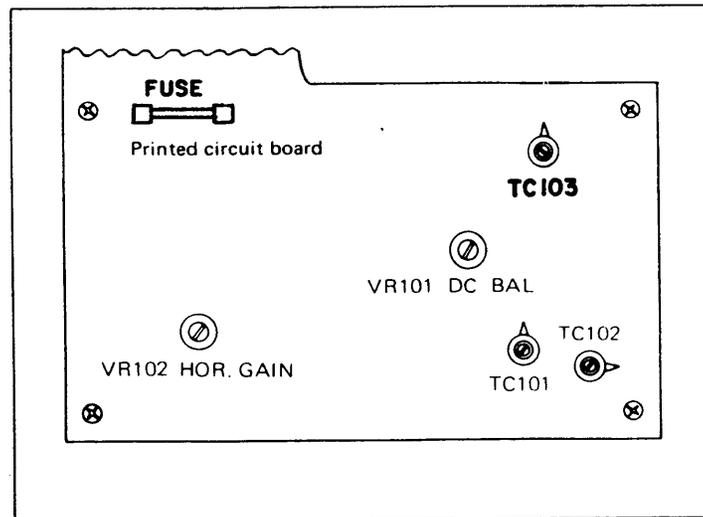

Fig. 6. Locations of Adjustments.
5. If the trace shifts in step 4, adjust DC BAL trimmer VR101 for minimum shifting of the trace as the V GAIN control is rotated. For easiest adjustment, start with the V GAIN control fully counter-clockwise. Repeat adjustment until shifting of the trace is minimized. VR101 is accessible through a hole in the bottom of the chassis as shown in Fig. 1 - or - the top case may be removed, and VR101 is located as shown in Fig. 6.
- Adjust **HOR GAIN** trimmer VR102 for a horizontal deflection of 10 divisions. VR102 is accessible through a hole in the bottom of the chassis (see Fig. 1). If the case is removed, VR102 is located as shown in Fig. 6.
- Adjust **HOR GAIN** trimmer VR104 for a trace length of 10 divisions. VR102 is accessible through a hole in the bottom of the chassis (see Fig. 1). If the case is removed, VR102 is located as shown in Fig. 6.
2. Remove the fuse from the fuse holder (located on the printed circuit board, refer to Fig. 6) and insert a new fuse of the proper value; 0.5 A for 117 volt operation, 0.3 A for 230 volt operation.